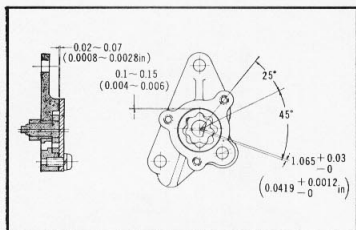

Figure 3-11. Oil pump gear clearance
- (1) Oil pump outer rotor to housing clearance (Fig. 3-11)